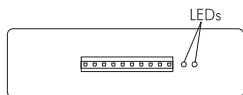

Fig. 4
Step 8. Verify the receiver has power. This can be verified by observing if LED1 and LED2 are illuminated. See Fig. 4.